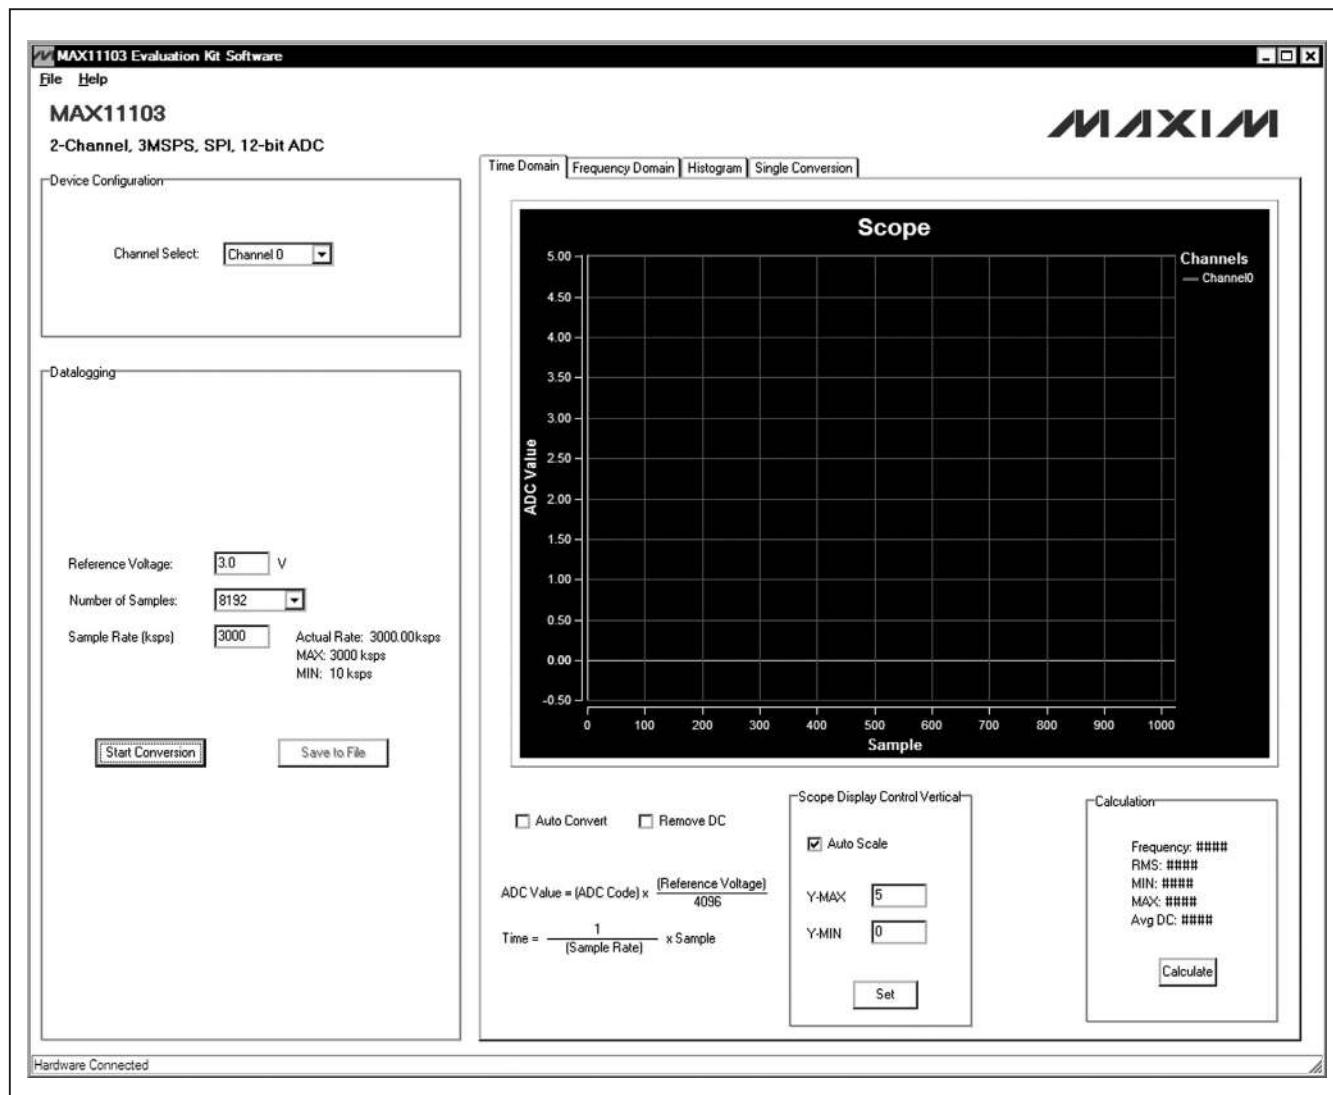

Figure 1. MAX11103 EV Kit Software Main Window
- 10) Start the EV kit software by opening its icon in the Windows **All Programs** menu. The EV kit software main window appears, as shown in Figure 1.
The main window of the evaluation software (Figure 1) contains a **Device Configuration** group box, a **Datalogging** group box, and four tab sheets to display the sampled data.